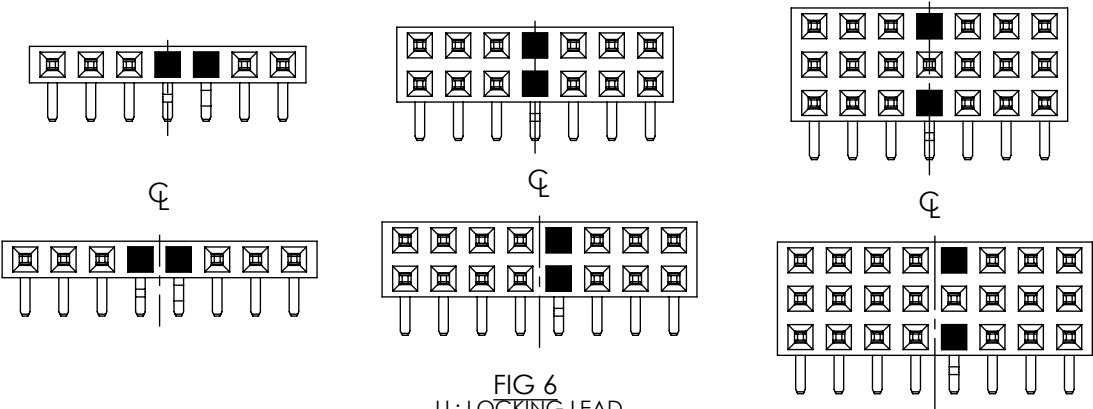

FIG 6
-LL: LOCKING LEAD (SEE FIG 6, SHT 2)